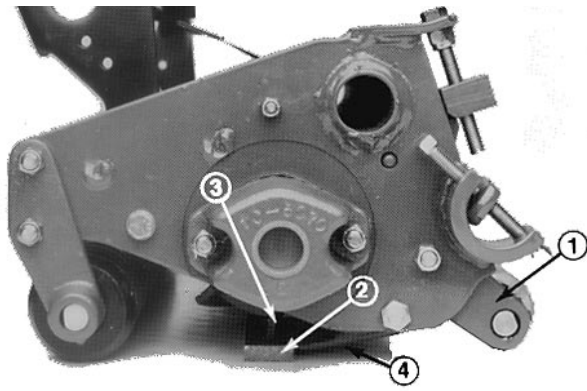

Figure 6
2. Place a 1/4 inch or thicker plate under the reel blades and against the cutting edge of the bedknife (Fig. 6). The rear roller should not contact the surface.